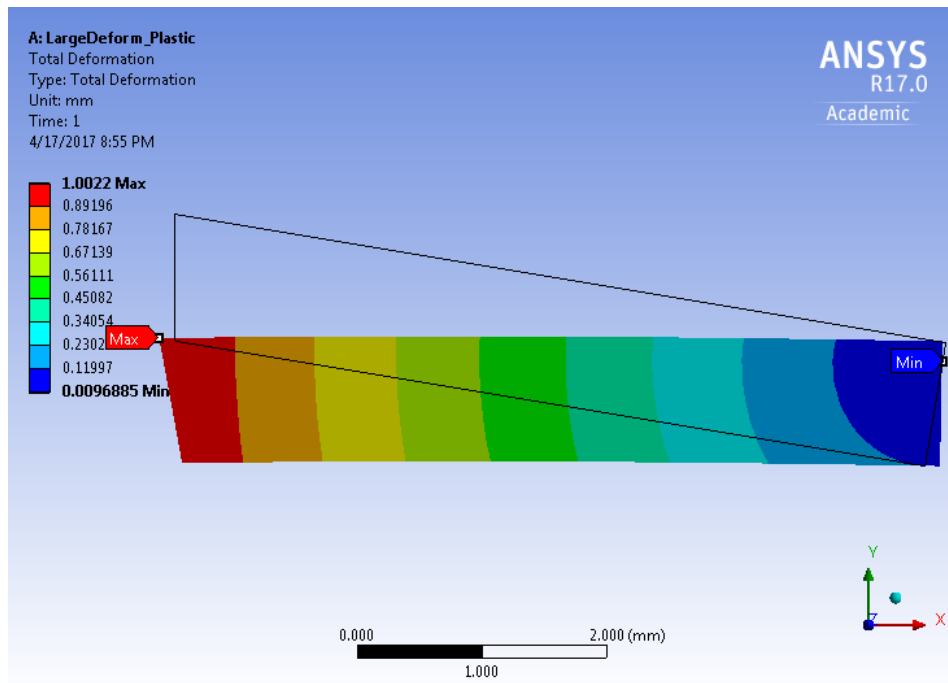

Figure A.7: Large Deformation, elastic-plastic- Total Deformation (t=1 s)
- **Large-deformation elastic-plastic analysis:** $F_3=657\text{ N}$ (Figure A.7)